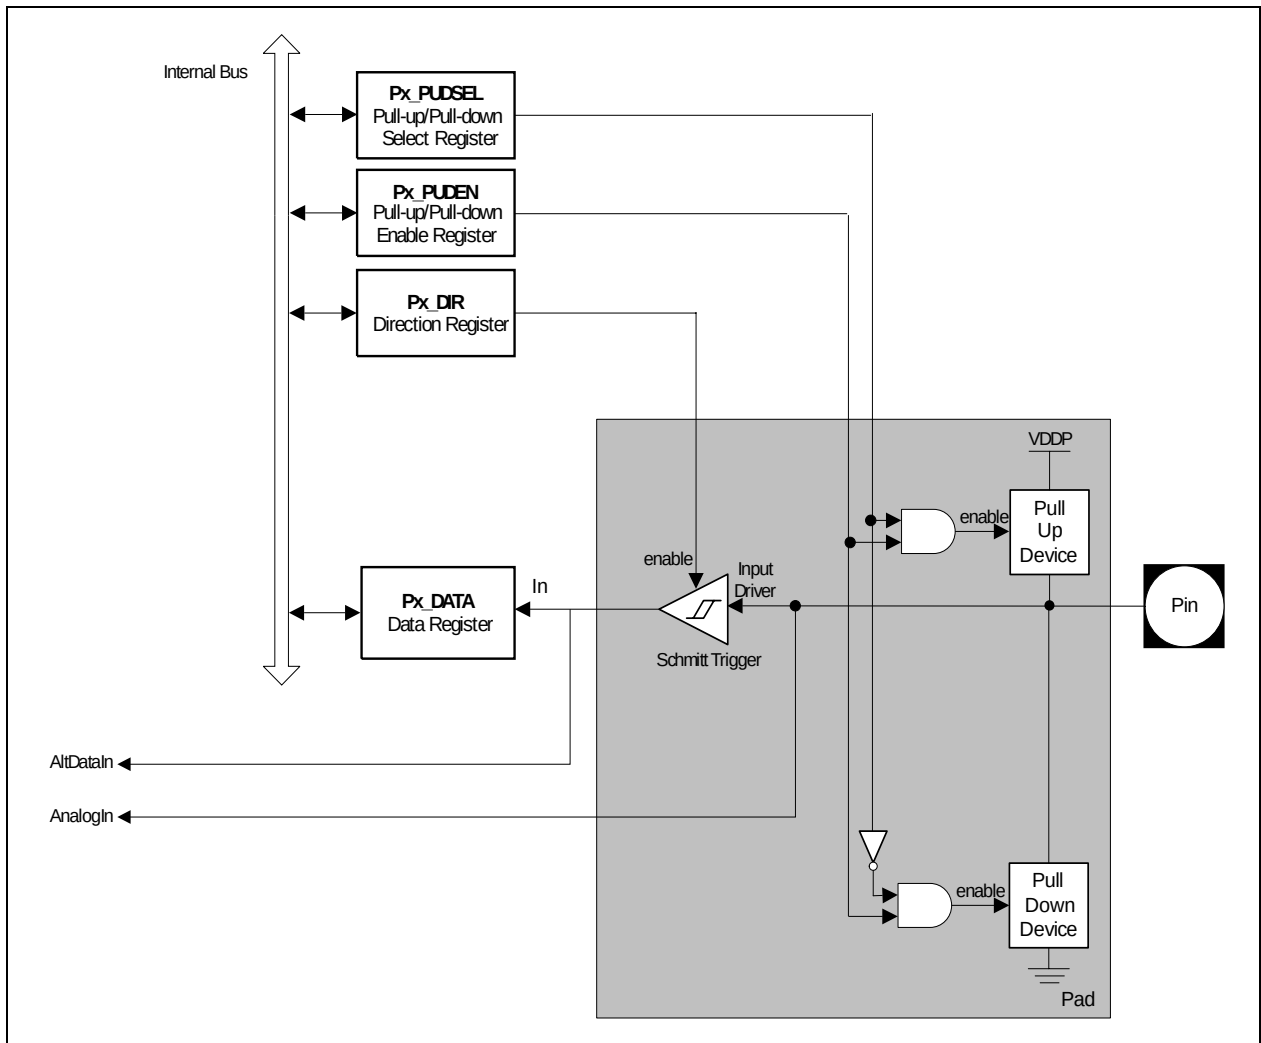

**Figure 19** General Structure of Input Port
**Figure 19** shows the structure of an input-only port pin.